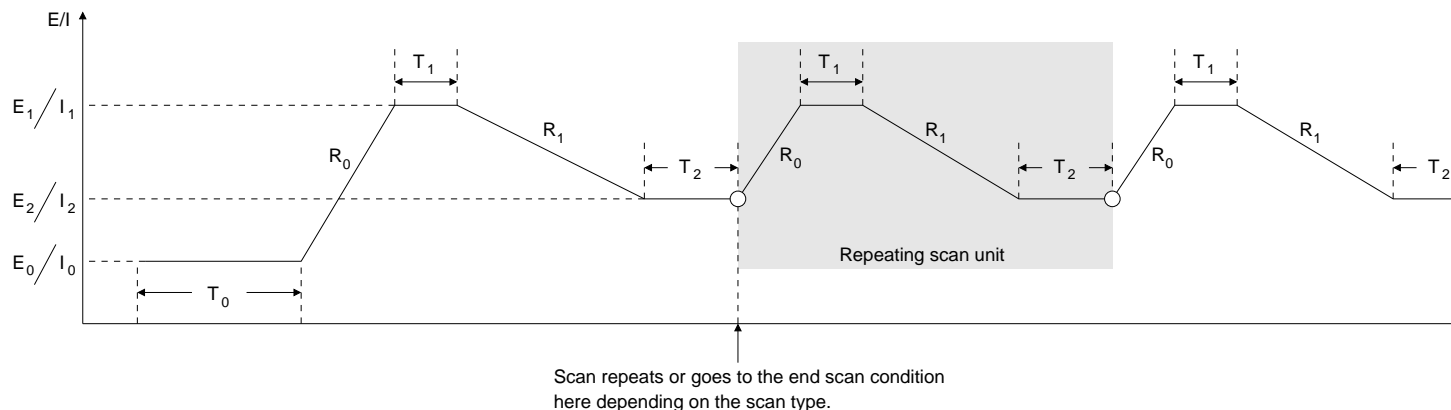

Figure 25: Parameters needed for the ramp generation commands.
The `i` parameter chooses the control point to set or query. The point values take mV values in potentiostat mode, and milli-fractions of the full scale current ( $I_{\text{range}}$ ) in galvanostat mode. As illustrated in figure 25, these values can be added to the baseline to form the finished waveform.
The `i` parameter chooses the control point to set or query. Figure 25 shows hold times  $T_0$  and  $T_1$  for points  $P_0$  and  $P_1$ .
**Description:** As illustrated in figure 25, there are three  $E/I$  vertex points needed to define a ramp waveform.
**Description:** As illustrated in figure 25, there are two ramp rates needed to define a ramp waveform.
**Description:** As illustrated in figure 25, there are three delay times needed to define a ramp waveform.
`rampen{x}`**Name:** `rampen` – End the ramp in progress.**Description:** This command will end a running ramp waveform without clearing the program.`rampcy(?) {x}`**Name:** `rampcy` – Set or query the number of ramp cycles.**Description:** The “repeating scan unit” illustrated in figure 25 can be repeated a few times or forever. Use this command to set a finite number of repeats after disabling single scanning with `scantp 0`.
A single scan sets the end scan condition after waiting the first  $T_2$  delay shown in figure 25. If this is disabled, the scan will continue and repeat the “repeating scan unit.” The number of repetitions is infinite by default, but can be made finite by sending a value for `rampcy`.
`scanem(?) {i}`**Name:** `scanem` – Set or query the scan end condition.**Description:** Single scans can either return the cell to open-circuit or to the  $E_0/I_0$  vertex shown in figure 25.